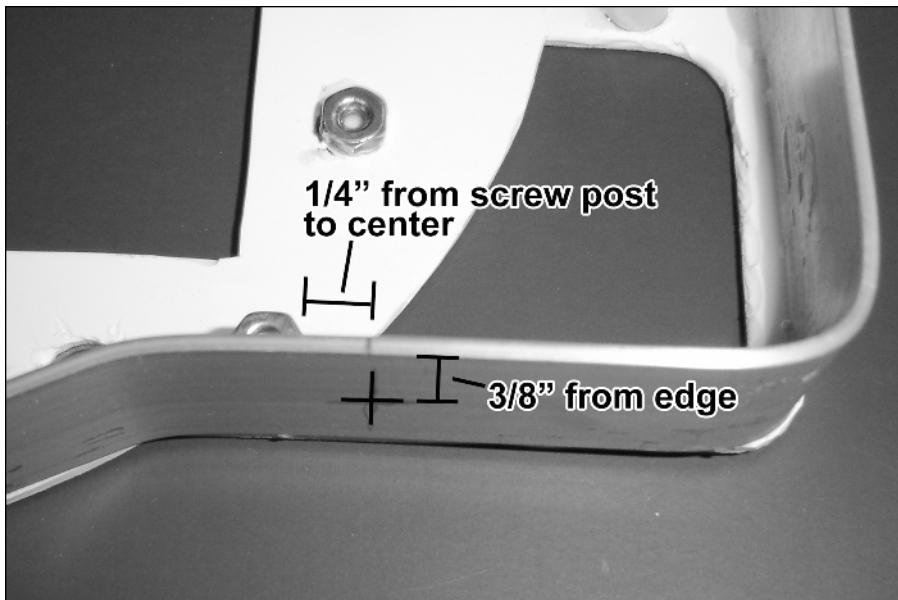

FIGURE 10-9: Target for drill hole for power jack.
14. Take a look at the lower right-hand corner of the front half of the case, viewed from the rear, as seen in Figure 10-9. Make a mark $1/4"$ from the screw post, and $3/8"$ up from edge of aluminum. This will be where the power jack goes.